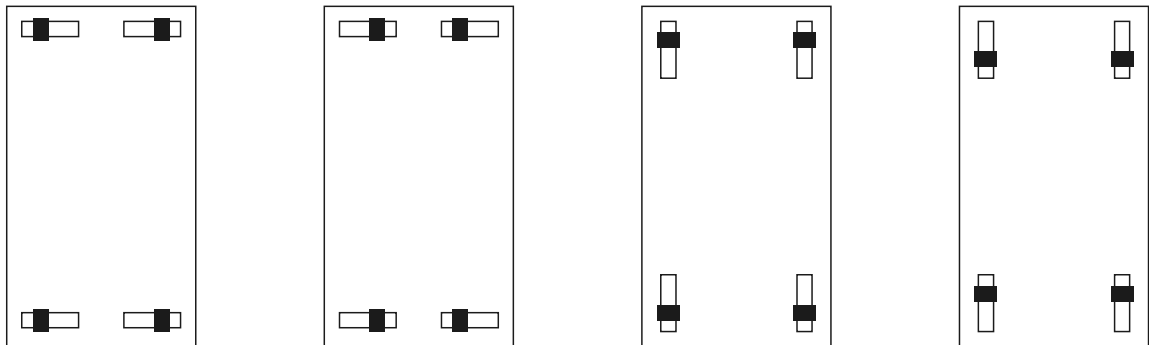

Figure 8 Recommended installation configurations.
- All load cells must be installed in the *same* direction so that the weight is distributed evenly (see Figure 8).